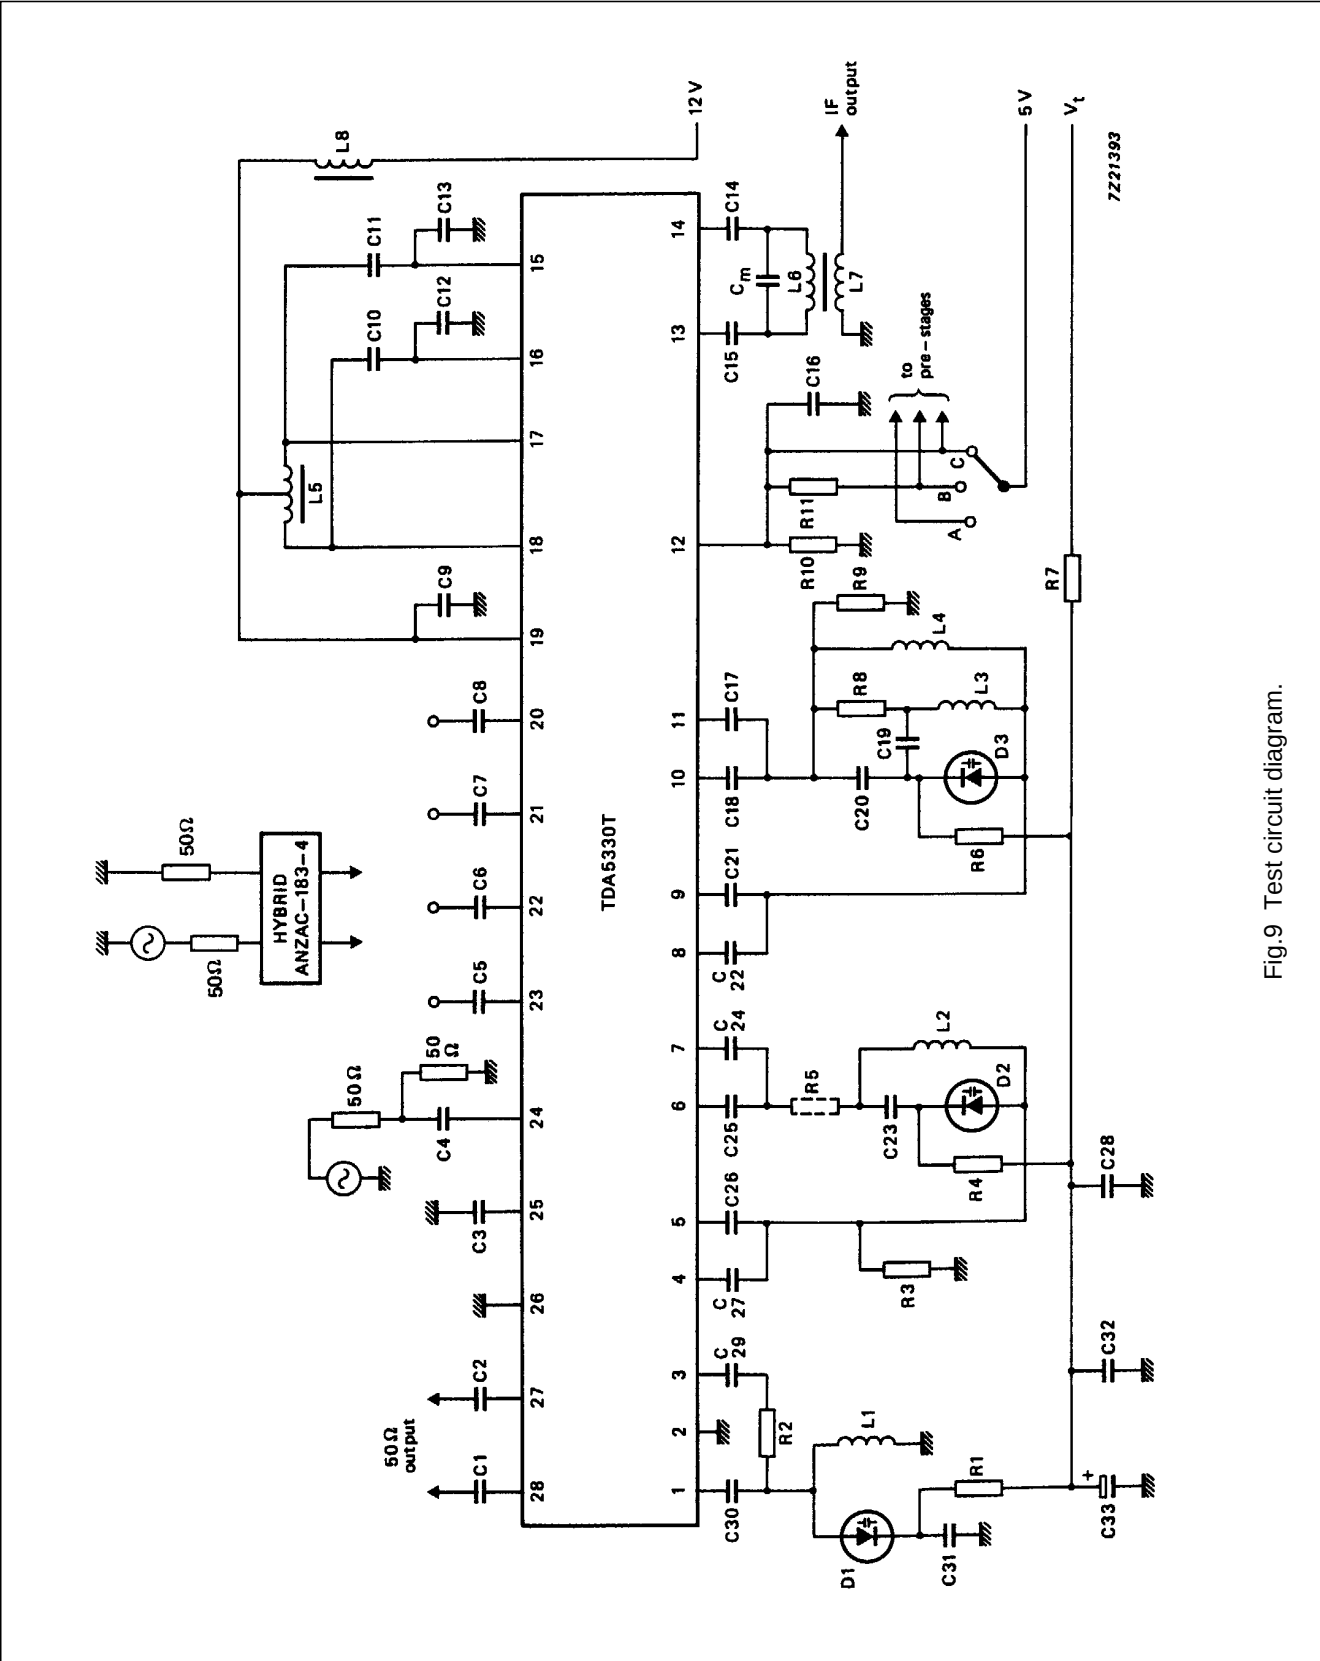

Fig.9 Test circuit diagram.
| Band C mixer(including IF) | measuredusing circuit shown inFig.9;measurementsusing hybrid;note 2 |                 |      |      |       |      |        |
4. The gain is defined as the transducer gain (measured in Fig.9) plus the voltage transformation ratio of L6 to L7 (6:1, 16 dB).